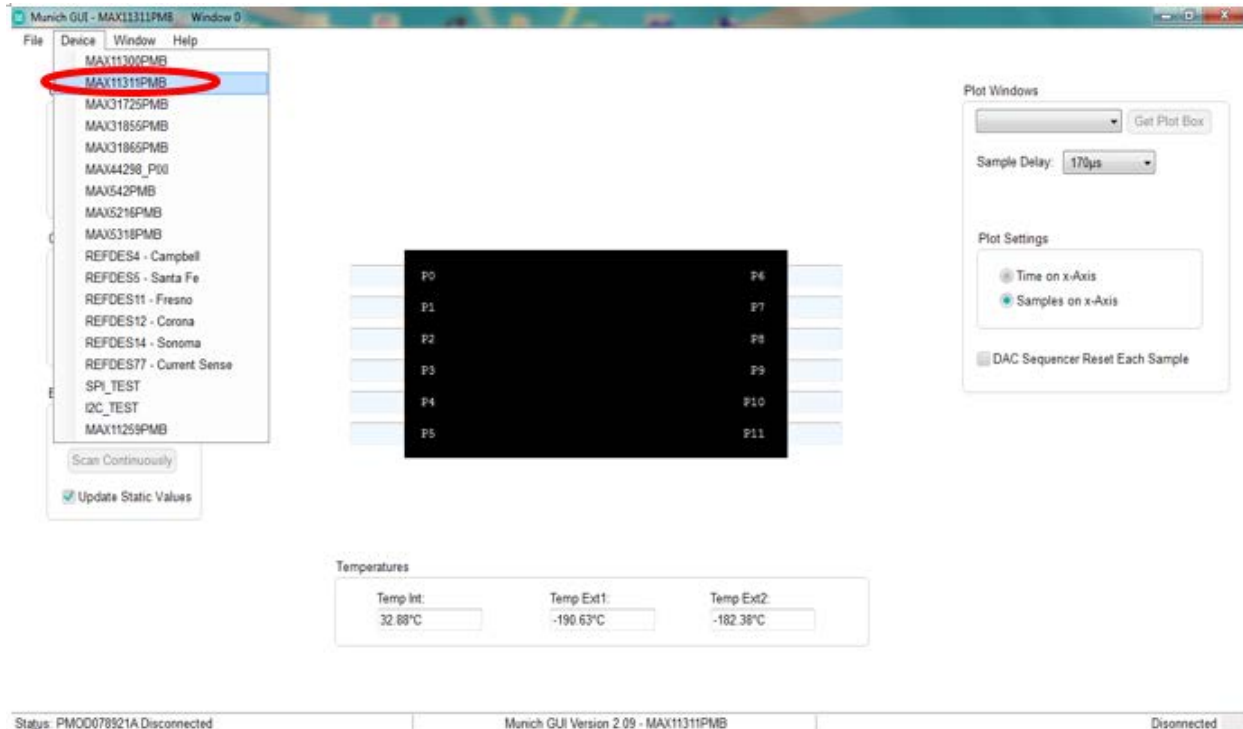

Figure 8. The Munich GUI.
- 6) Click on Device tab and select the MAX11311PMB1# as shown in **Figure 8**, the Munich GUI.